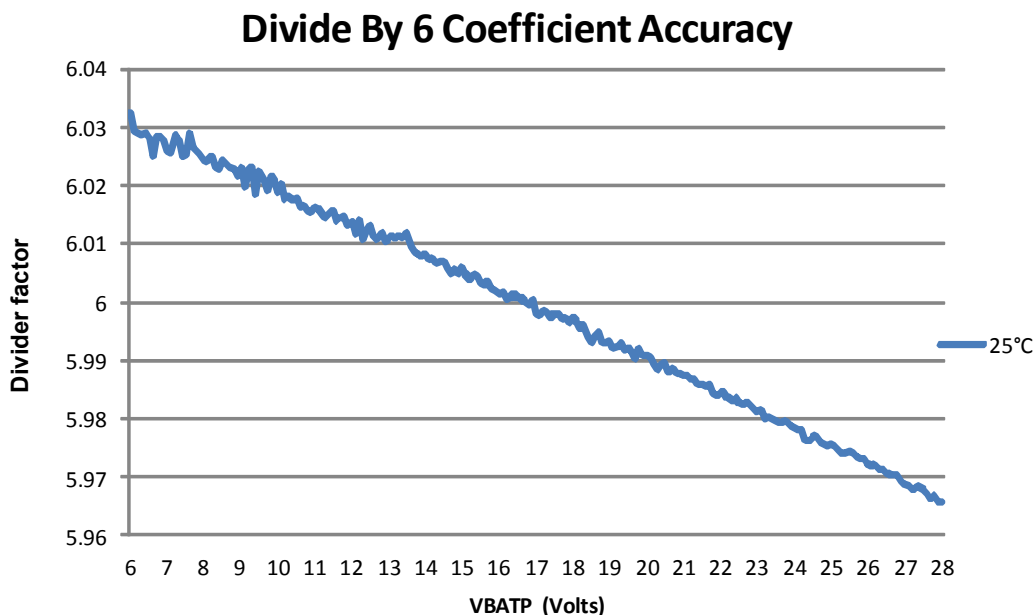

Figure 4. Divide by 6 coefficient accuracy
22. Calibration of divider ratio can be done at $V_{BAT} = 12\text{ V}$, $25\text{ }^{\circ}\text{C}$ to achieve a higher accuracy. See Figure 4 for AMUX offset linearity waveform through the operating voltage range.